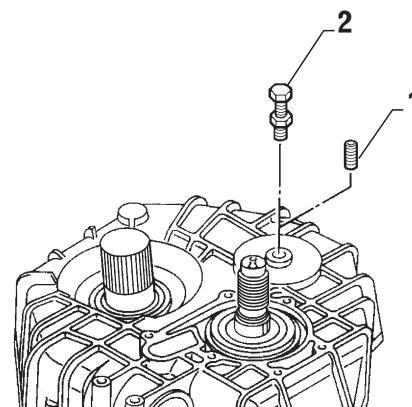

FIG. 5-5a
- a) Unscrew plug (item 1, Fig. 5-5a) from the housing.
- b) Screw in special tool (p/n 224.836.008 (458105)) (item 2, Fig. 5-5a) into intermediate shaft hole.
- Install mounting bolts (item 2 and 3 Fig. 5-5a) and torque them to 40 Nm (30 ft.lb.).